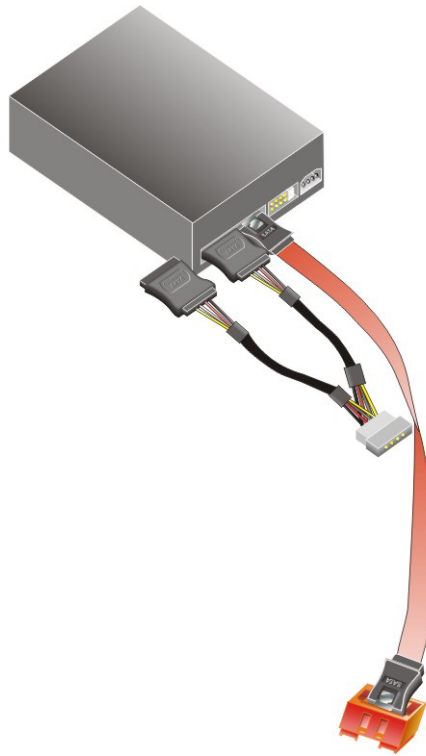

Figure 5-14: SATA Power Drive Connection
Step 3: Connect the cable to the SATA disk. Connect the connector on the other end of the cable to the connector at the back of the SATA drive. See **Figure 5-14**.
Step 4: Connect the SATA power cable. Connect the SATA power connector to the back of the SATA drive. See **Figure 5-14**.